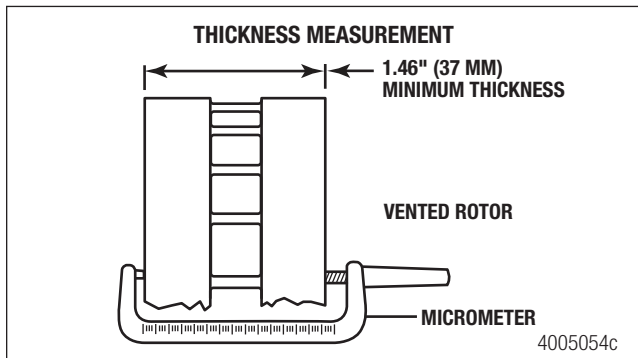

Figure 9.8
1. Use a micrometer to measure the rotor thickness. When replacing the brake pads, the rotor should be replaced if the rotor thickness is less than 1.46" (37 mm). Figure 9.8.